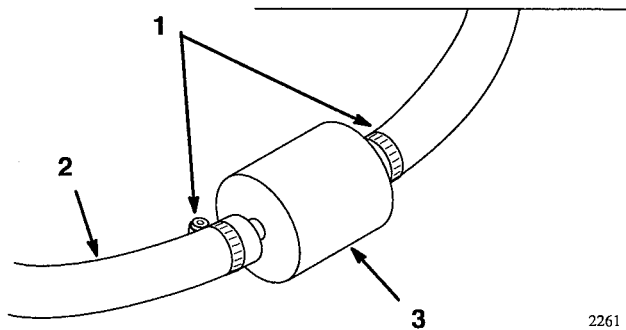

Figure 26
3. Loosen hose clamps and slide them up the hose, away from the filter (Fig. 26).